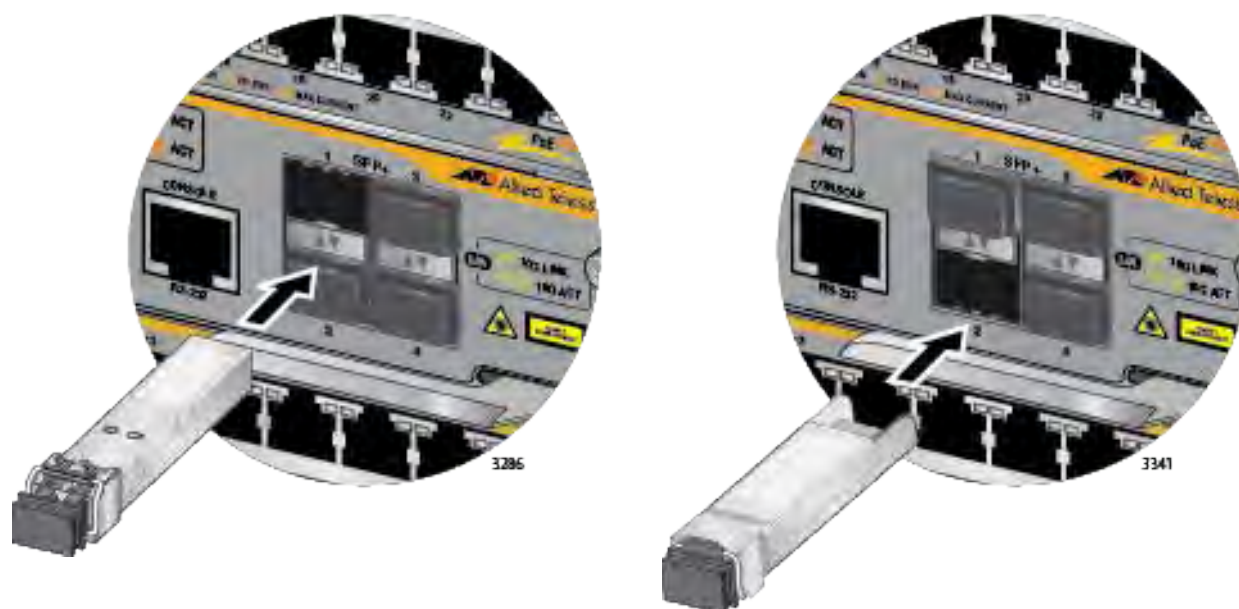

Figure 113. Installing an SFP+ Transceiver in the AT-SBx81CFC960 Controller Fabric Card
3. Slide the transceiver into the slot until it clicks into place, as shown in Figure 113 on page 192.